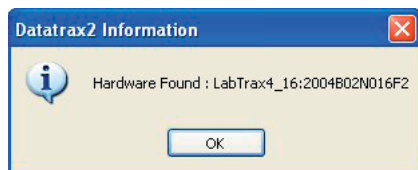
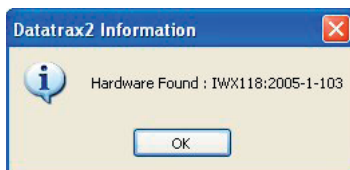
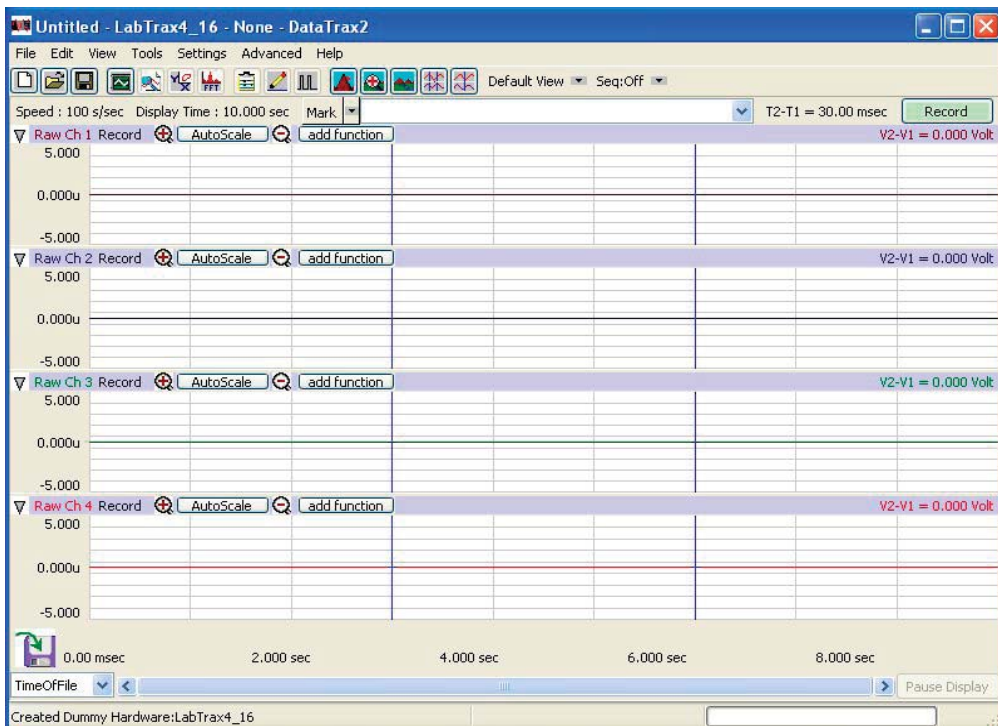

Fig. 32—(Left) LabTrax 4\_16 hardware was found
Fig. 33—(Right) WPI-118 hardware was found
Fig. 34—Main LabScribe window
4. An information box appears indicating the hardware that was found. For example, **Fig. 32** shows a LabTrax 4\_16, and **Fig. 33** shows a WPI-118. The default LabScribe main window appears (**Fig. 34**).